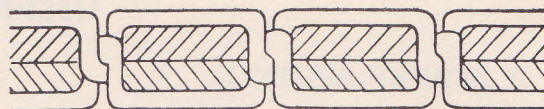
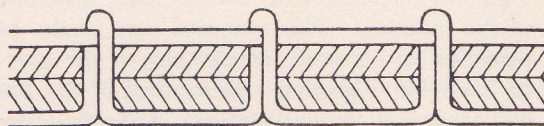
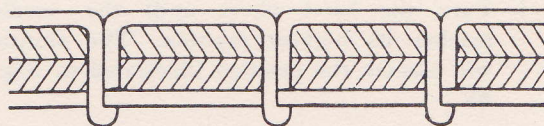
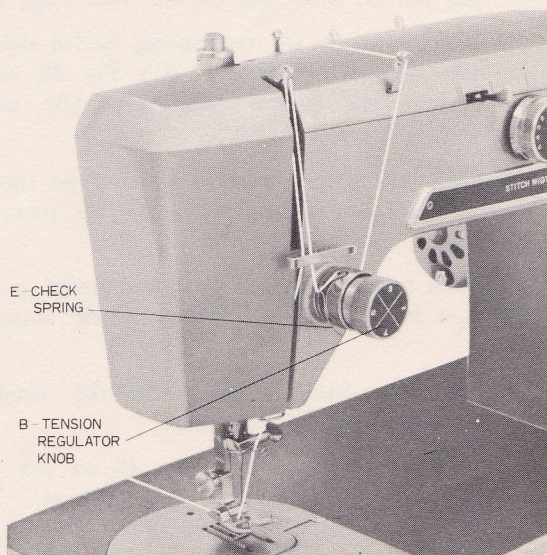

Fig. 35
Fig. 36
Fig. 37
Fig. 38. Needle Thread Tension
THREAD TENSION RARELY REQUIRES ADJUSTMENT EVEN WHEN SEWING MATERIAL OF DIFFERENT THICKNESSES. Note that for ordinary sewing the needle and bobbin threads should be locked in the center of the seam of the materials as illustrated, Fig. 35. Too tight a tension on the needle thread, OR too loose a tension on the bobbin thread will produce a stitch with the needle thread lying in a straight line along the upper surface of the material as illustrated, Fig. 36. Too tight a tension on the bobbin thread, OR too loose a tension on the needle thread will produce a stitch with bobbin thread lying on a straight line along the under side of the material as illustrated, Fig. 37. Normally most adjustments will be made on the needle thread tension control, Fig. 38, not the bobbin tension.
The presser foot must be in the down position to regulate tension on the needle thread. The tension regulator knob, (B) Fig. 38, controls the varying degrees of tension which can be produced on machine.
- D. Thread check spring, (E) Fig. 38, bent or broken.